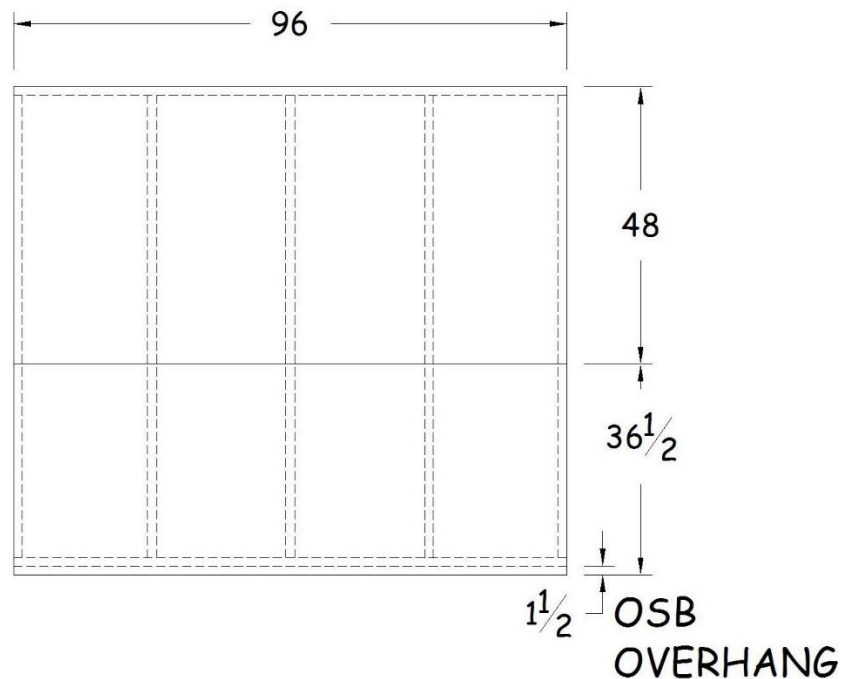

Figure 22-8. Side Wall Sheathing.
- c. Cut two additional pieces of $\frac{1}{2}$ " OSB approximately $36\frac{1}{2}$ " x 96", to fit below the upper section of OSB. These pieces should fit tight to the upper OSB pieces and overhang the bottom plate by $1\frac{1}{2}$ ". Nail into all studs and the bottom plate with $\frac{2}{8}$ " collated nails every 8-12". See Figure 22-8.